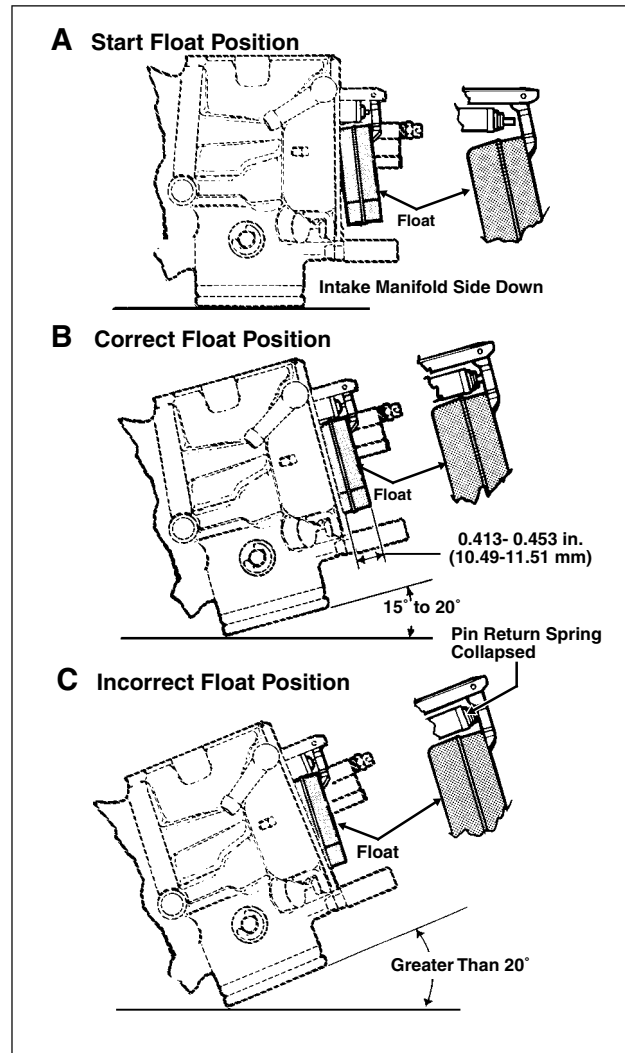

Figure 4-20. Float Check and Adjustment
- a. Place carburetor on a clean flat surface with the intake manifold side down. See A of Figure 4-20.
- b. Tilt the carburetor 15° to 20° in a counter-clockwise direction until float comes to rest. See B of Figure 4-20.